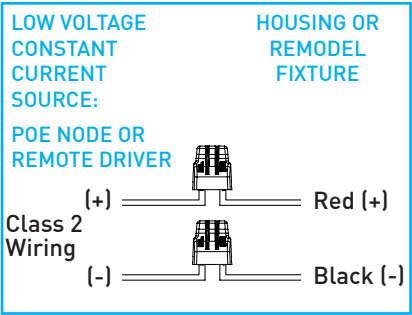

Fig. 14
Housing provides two (2) wires for connection to low voltage: Red (+) and Black (-) (Fig. 14).
Feed structured building low voltage wires through knockout, secure to corresponding connector (Fig. 14) and tighten strain relief.